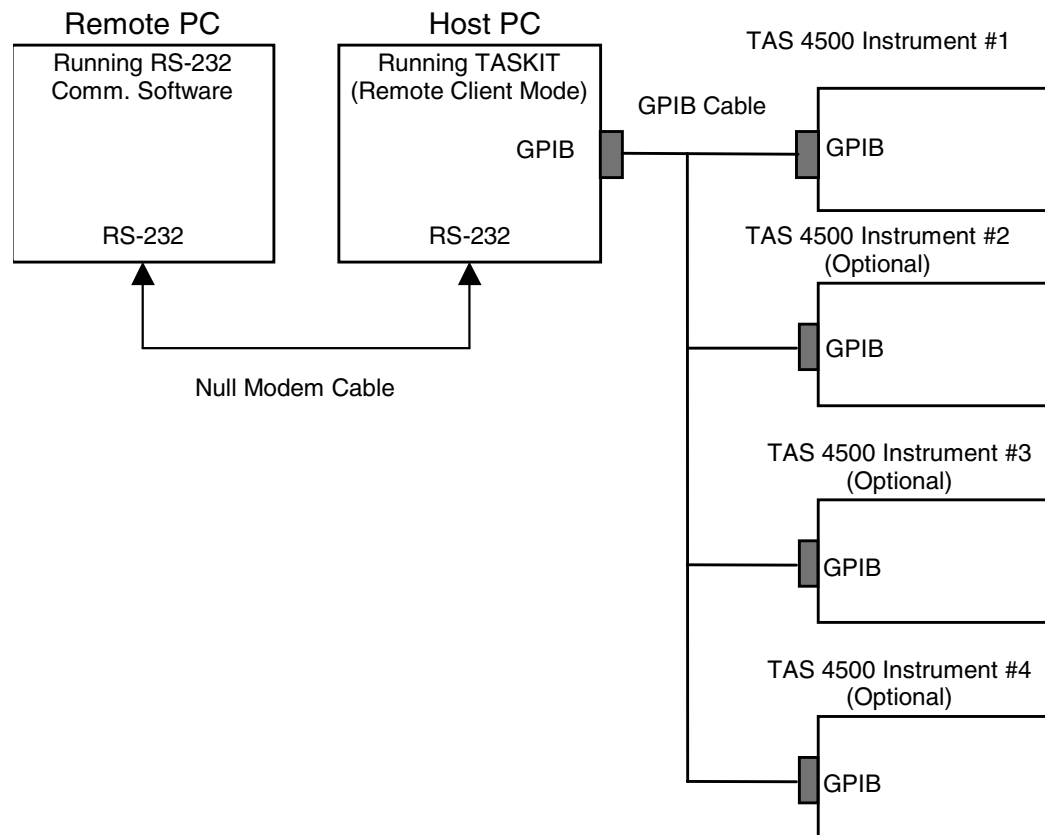

Figure 3-22. Remote Client Mode Setup
The host PC, remote PC, and TAS 4500 unit(s) must be properly setup prior to using the Remote Client Mode. Figure 3-22 below shows the basic cable connections that are required to interconnect the devices. For multiple unit test systems involving more than one 4500, the complete system setup requirements are outlined in Section 1.3.5 of the manual.
1. Setup and configure the TAS 4500 and the two PCs as shown in Figure 3-22 above.
The following example demonstrates the use of the Remote Client Mode to execute the provided example file “*PATHLOSS.SMC*” from a remote PC using a Terminal program. Figure 3-22 below provides a screen capture of the successive commands sent from the Remote PC to the Host PC to setup and run this test. The step-by-step outline provided below shows the typical sequence of commands that would be necessary.